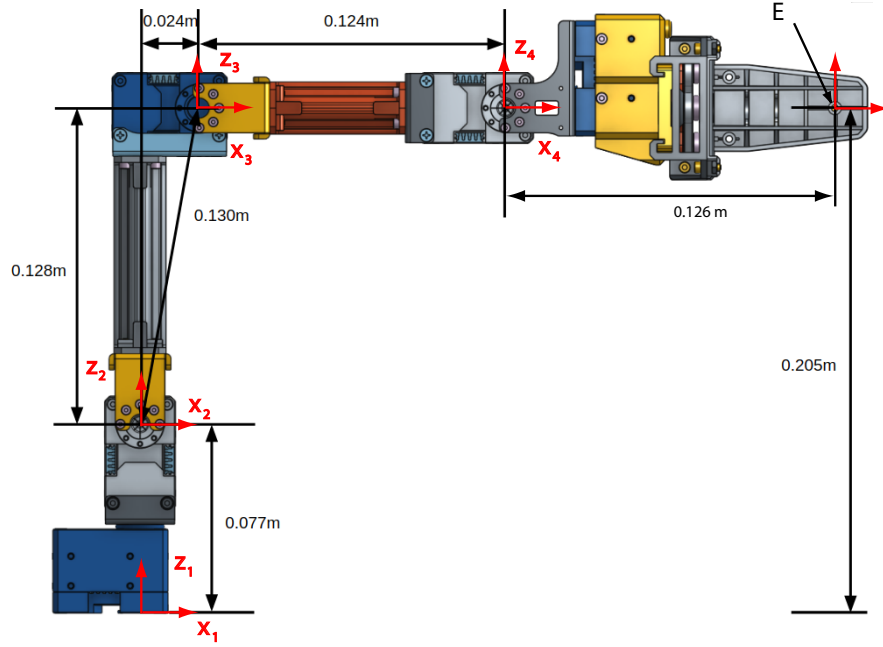

Figure 1: 2D view of the OpenMANIPULATOR-X with joint axis and dimensions.
1. **Forward Kinematics of OpenMANIPULATOR-X:** Figure 1 shows the OpenMANIPULATOR-X by Robotis. A video of the robot in action is here: <https://youtu.be/B2pnXtooKOg?si=4n-s3DzvyBLluBIA>. In the configuration shown in Fig. 1, all the joint angle are set to zero. This configuration is also known as the zero reference configuration. The world frame $o_0x_0y_0z_0$ (not shown) is along the $o_1x_1y_1z_1$ frame (shown in the figure) in the zero reference configuration. The manipulator has four revolute joints: θ_1 along z_1 , θ_2 along y_2 , θ_3 along y_3 , and θ_4 along y_4 . These joint axes are shown in the 3D view in Fig. 2 (a). The body frames are $o_ix_iy_iz_i$ where $i = 1, 2, 3, 4$ are at the joint axis and are along the world frame $o_0x_0y_0z_0$ in the zero reference configuration. These body axes are in the 3D view in Fig. 2 (b). The end-effector is the point E in Fig. 1 and shown with a yellow dot in Fig. 2.
HINT: To check your formula, you can check the solution for the end-effector for a few special cases that can be deduced by inspecting Fig. 1.
- (a) For $\theta_i = 0$ where $i = 1, 2, 3, 4$ from inspecting Fig. 1, $E^0 = [0.2740, 0, 0.2050]$.
- (b) For $\theta_1 = 90^\circ$, $\theta_i = 0$ where $i = 2, 3, 4$ from inspecting Fig. 1, $E^0 = [0, 0.2740, 0.2050]$.
- (c) For $\theta_3 = -90^\circ$, $\theta_i = 0$ where $i = 1, 2, 4$ from inspecting Fig. 1, $E^0 = [0.024, 0, 0.4550]$.